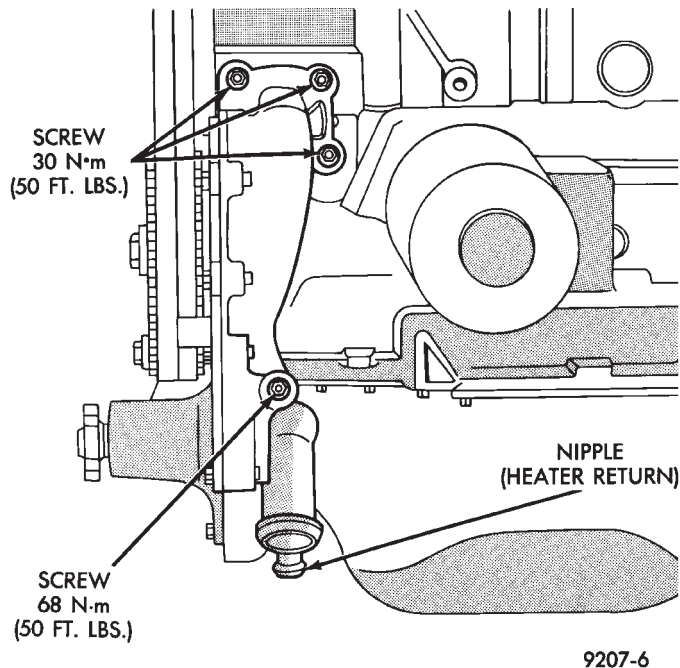

Fig. 1 Water Pump 2.5L Engines
(3) If the vehicle is not equipped with air conditioning, remove alternator and mounting bracket.
(4) Disconnect lower radiator and heater hoses from pump.
(5) Remove water pump attaching screws to engine (Fig. 1).
(1) Install water pump on engine. Tighten top three screws (Fig. 1) to 30 N•m (250 in. lbs.). Install lower screw and tighten to 68 N•m (50 ft. lbs.).
(2) Reinstall bypass/heater hose and lower radiator hose.
(3) Reinstall alternator and air conditioning compressor bracket(s). For solid mount bracket see standard service procedures in Group 9 Engine.
(4) Reinstall alternator and air conditioning compressor.
(5) Refill cooling system. See **Refilling Cooling System**.
(6) Install drive belt, See Accessory Drive Belts, this Group.